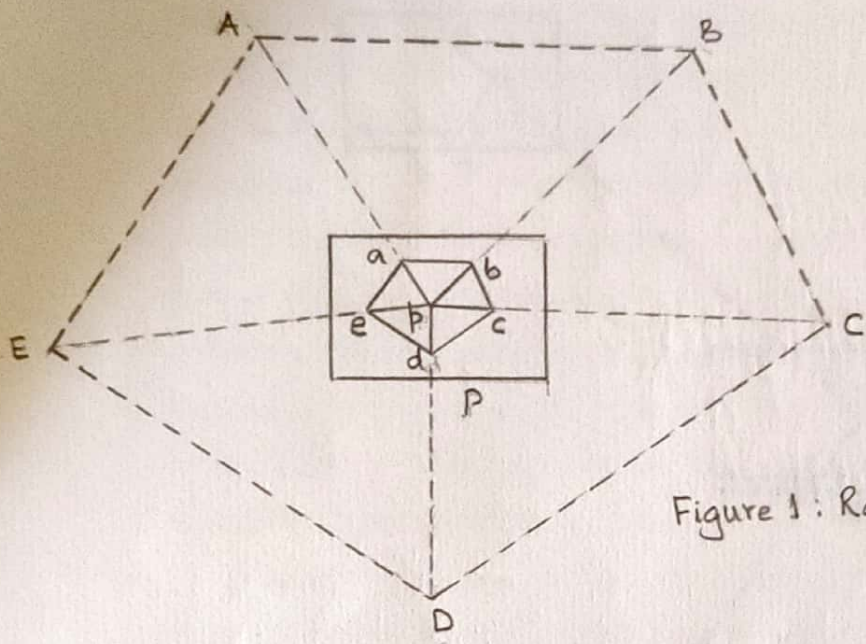

Figure 1 : Radiation
1. Radiation Method: In the radiation method, the points are located by drawing radial lines from the plane table station. The distances of these points from the plane table station are measured and scaled off on the corresponding radial lines to locate the points. (refer figure 1)